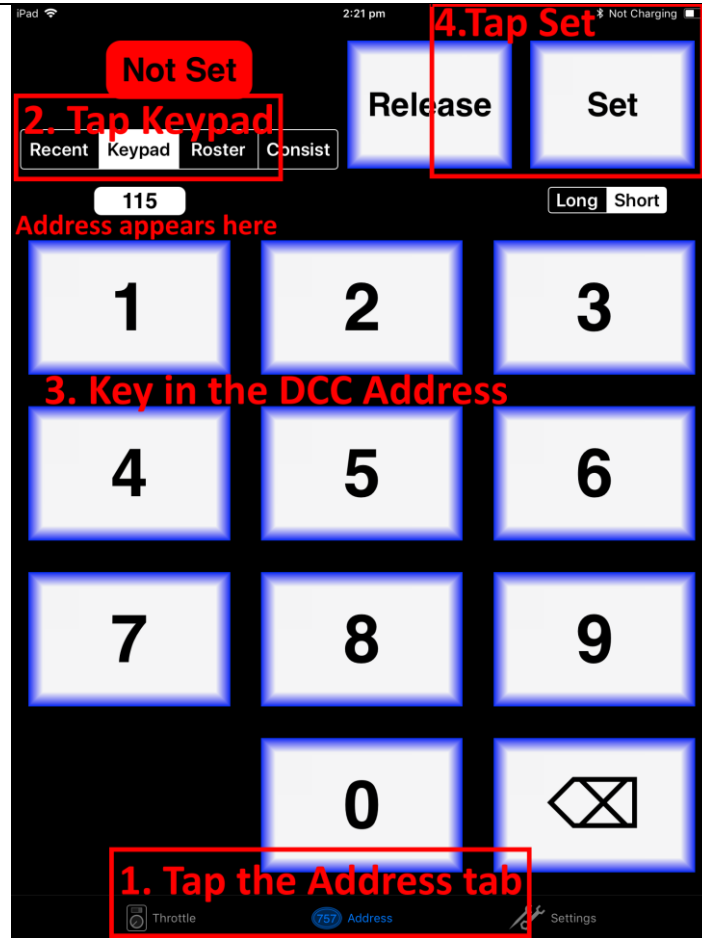

Figure 8 The Address tab of WiThrottle. Select a loco to drive
(10) Now tap the "Address" tab at the bottom (it might go there automatically), tap Keypad and key in the DCC address of the locomotive that you wish to drive then tap the Set button as Figure 8.